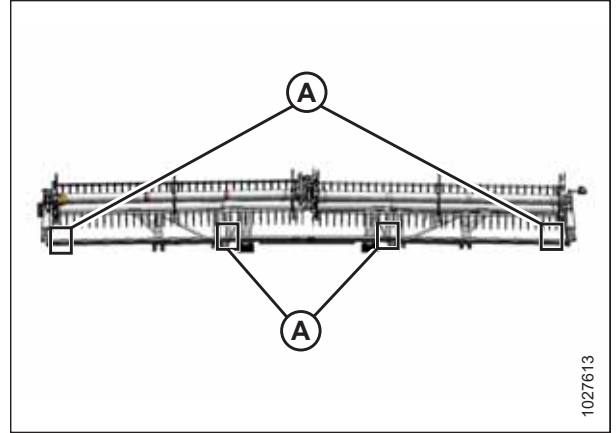

Figure 5.284: FlexDraper® Measurement Locations – Triple Reel
- Figure 5.284, page 531 – triple reel